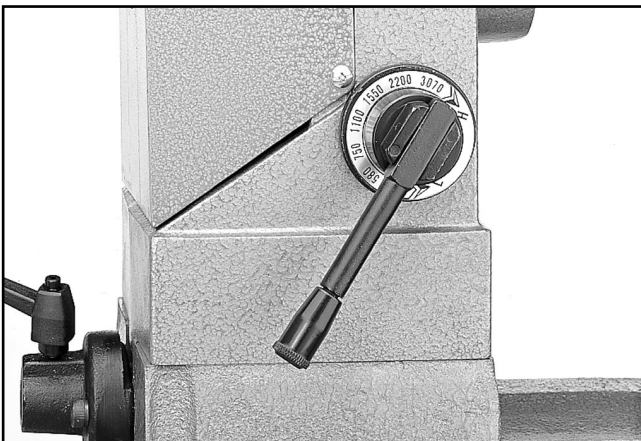

Figure 24. Speed selector in slowest speed
2. Pull the speed selector lever straight back away from the machine so the detent spring compresses. **Figure 24.**